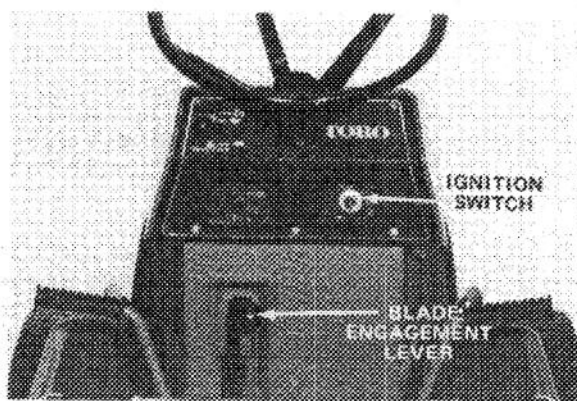
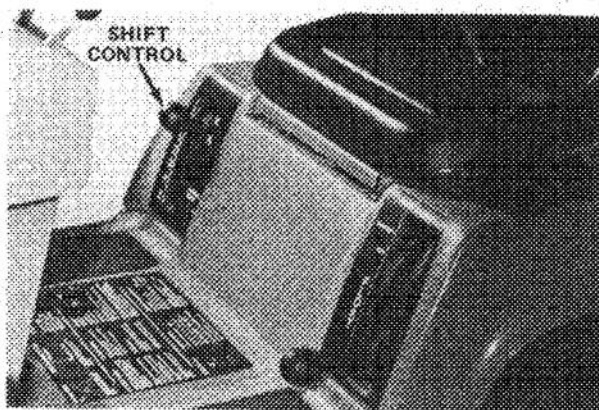

Figure 45
Figure 46
2. Move blade engagement lever (Fig. 45) to the ENGAGE position. Rotate the ignition key to START. Engine should not crank. If engine cranks, the interlock system is malfunctioning and it must be repaired by an Authorized TORO Service Dealer. If engine does not crank, proceed to step 3.
3. Move blade engagement lever to DISENGAGE position (Fig. 45) and place shift control into one of the gear selections (Fig. 46). Rotate the ignition key to START. Engine should not crank; but if it does, the interlock system is malfunctioning and it must be repaired by an Authorized TORO Service Dealer. If engine does not crank, proceed to step 4.
4. Move shift control (Fig. 46) into neutral and blade engagement lever (Fig. 45) to DISENGAGE position. Engage the parking brake to prevent movement of the rider. Rotate ignition key to START position and start engine. Place the blade engagement lever in ENGAGE position and carefully raise off the seat: the engine should stop running. If engine does not stop running, shut engine off and have interlock system repaired by an